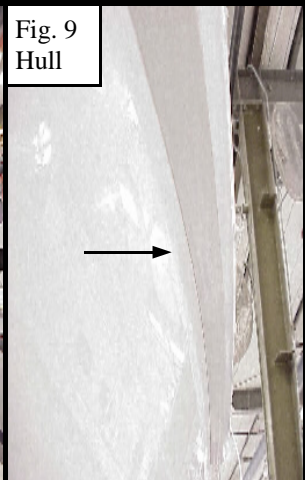

Fig. 10
6. Cut off excess keeper even with the bow of the boat. Fig. 10 & 11.